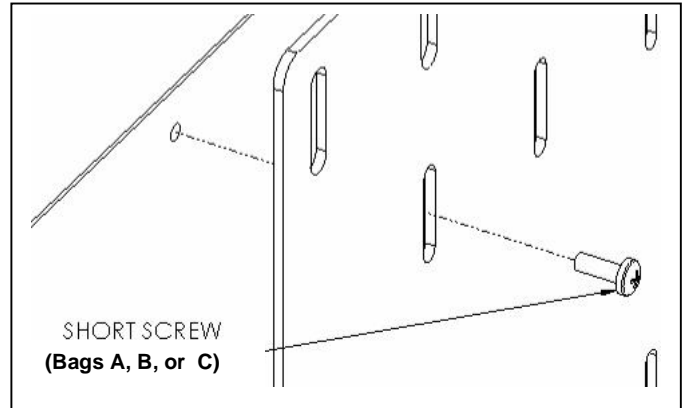
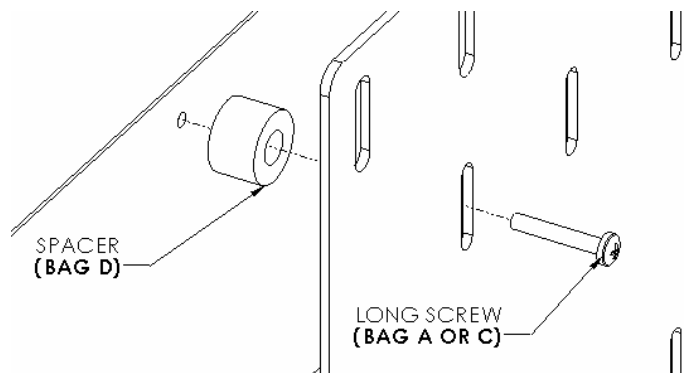

Figure 3. For a Display without a Recess or Protrusion
Figure 4. For a Display with a Recess or Protrusion
- Spacers from Bag D (see Figure 4) may be needed if mounting holes of display are recessed or if screen has a protrusion that would require the MSP-DELMBSV interface to be spaced away from the back of the display.
- Select screws from Bag A, B or C (see Figure 3), or Bag A or C (see Figure 4) if mounting holes of display are recessed or if screen has a protrusion that would require the MSP-DELMBSV interface to be spaced away from the back of the display.
2. Perform the appropriate procedure, *as described in the following sections*, to attach the MSP-DELMBSV (10) to back of display.